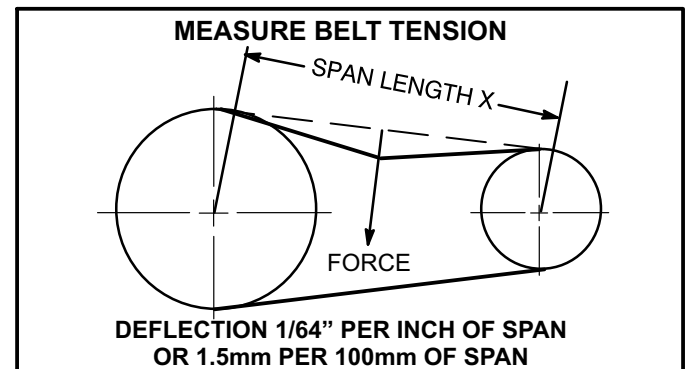

FIGURE 10
- 1- Measure span length X. See figure 10.
- 2- Apply perpendicular force to center of span (X) with enough pressure to deflect belt 1/64" for every inch of span length or 1.5mm per 100mm of span length.